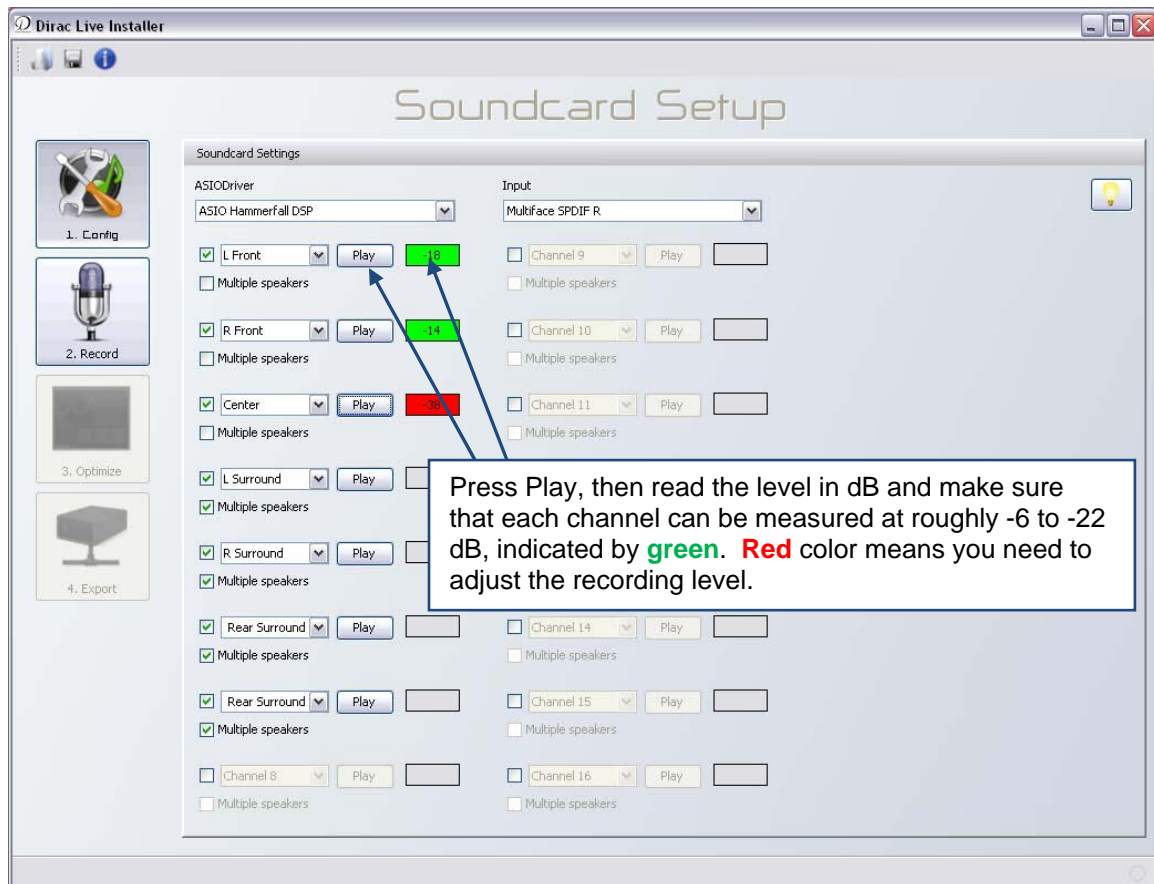

Figure 10. Soundcard Setup Screen
8. Read the level in dB and make sure that each channel is measured at approximately -6 to -22 dB (normal listening levels), which corresponds to the **green** indicator. If the indicator is **red**, you need to adjust the recording level. Then press the Play button again to stop the playback on the channel. Do this for all channels that are being measured. See Figure 10.